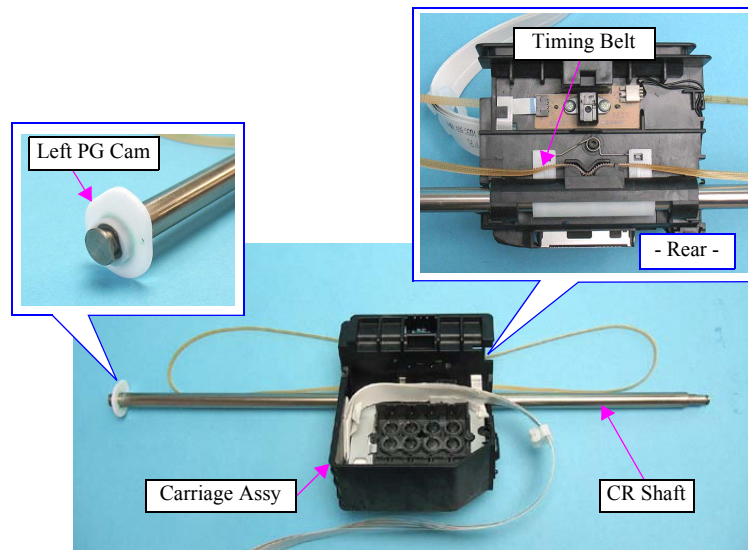

Figure 4-138. Removing the Carriage Assy (4)
■ When installing the Left PG Cam, install it in the orientation shown in Figure.4-138.